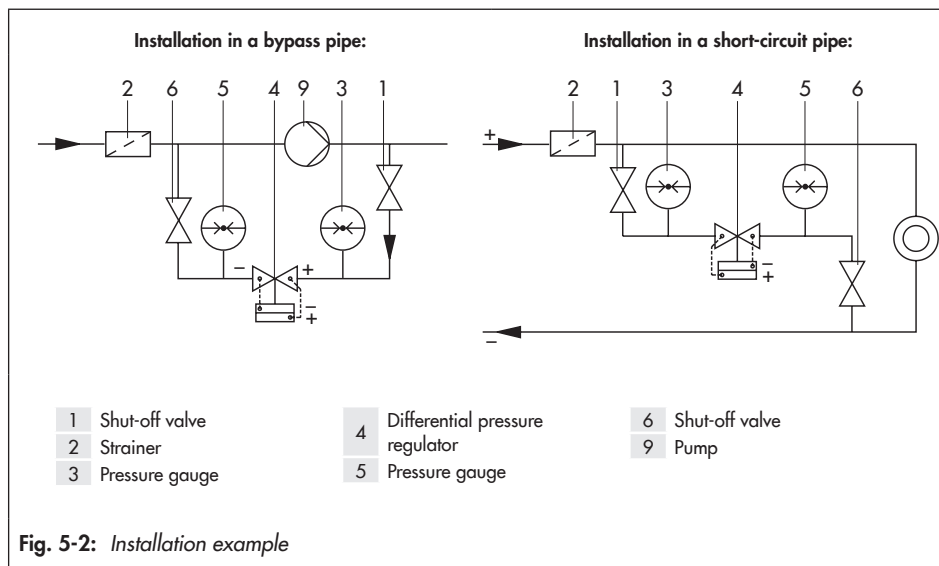

Fig. 5-2: Installation example
- *Connect the low pressure of the plant to the low-pressure connection (-) of the actuator (top diaphragm chamber). See Fig. 5-2.*
The regulator can be installed into a bypass pipe or a short-circuit pipe (see installation example in Fig. 5-2).